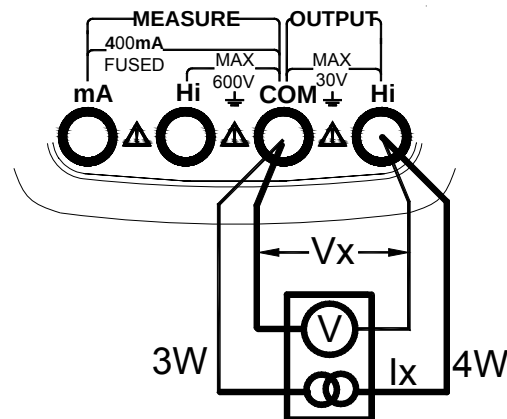

Figure 8. Resistance or RTD Simulate Output
1. Insert one end of the test lead into the **Hi** (OUTPUT) jack and **COM** jack of the meter and connect the other end to the input of the user's instrument as shown in the Figure 8: